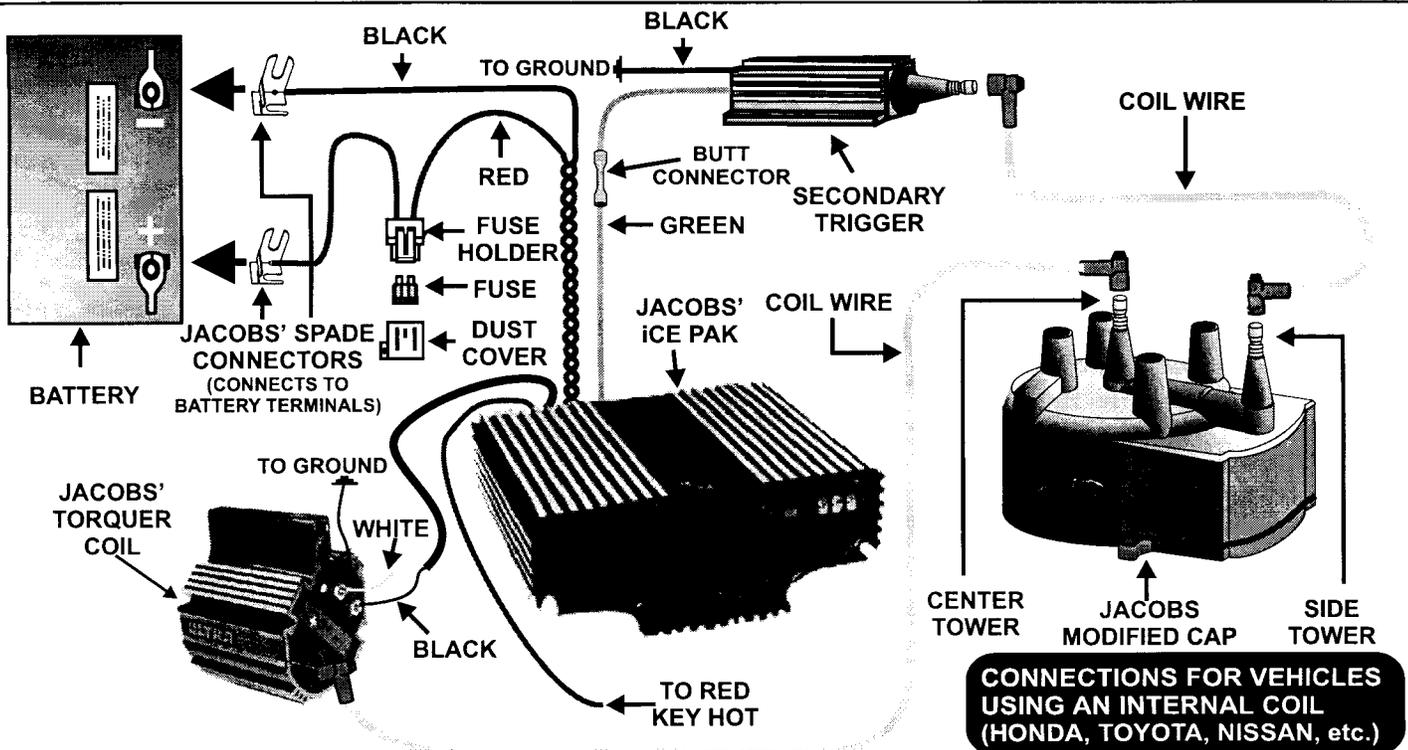

FIGURE 8: CONNECTIONS USING A SECONDARY TRIGGER AND MODIFIED CAP
Refer to FIGURE 8, above for connection procedure for vehicle using a JACOBS' MODIFIED CAP and SECONDARY TRIGGER.
1. Install the new coil wire supplied as part of your kit between the SECONDARY TRIGGER and the SIDE TOWER of your modified cap (save your original coil wire in case you wish to convert back to a stock system) as shown in FIGURE 8, above.